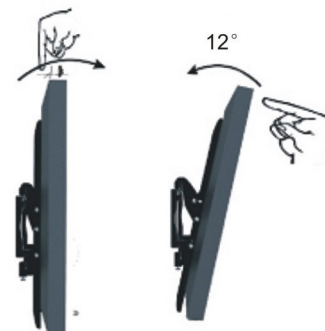

Figure 8
2. Tilt the display to the desired angle (Figure 8).